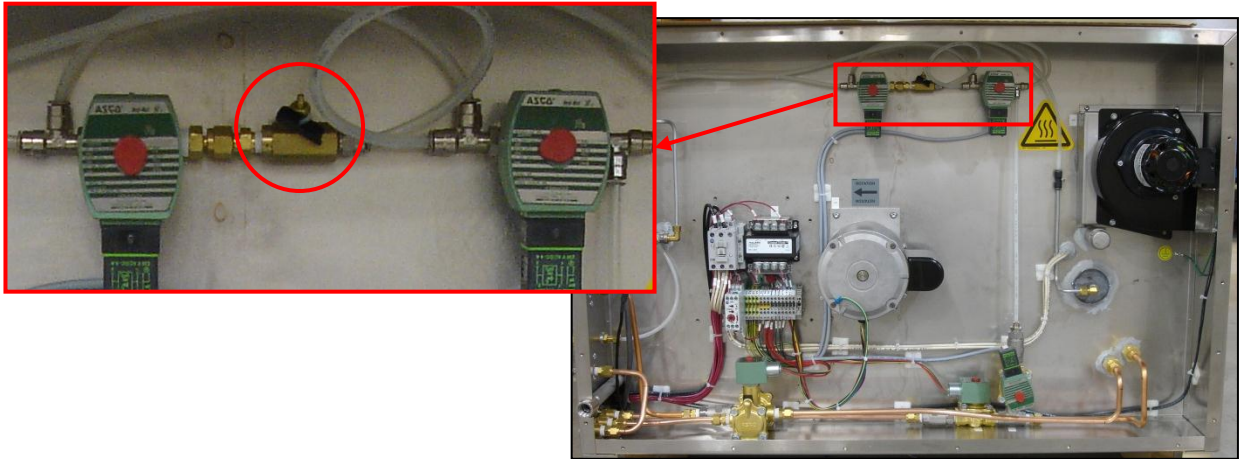

Figure 17. Adjust Nitrogen Maintain Needle Valve.
- b. Adjust the Nitrogen Maintain needle valve at rear of oven (Figure 17). Leave the maintain valve energized as long as the nitrogen level is maintained (Table 6).